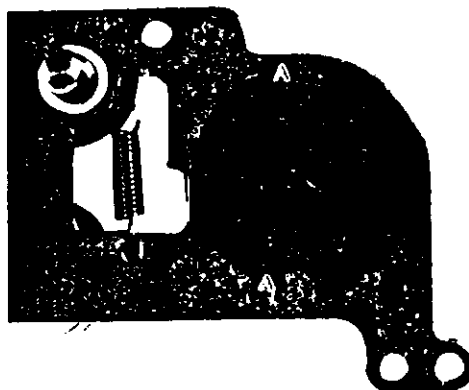
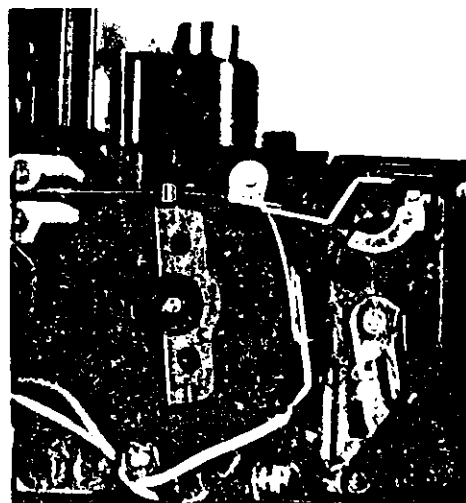

Fig. 3
Fig. 2
- 1) Set the INDICATOR CAM to position B as shown in Fig. 2. (Figure 2 indicates the BULB position.)
Hold down the PRISM FRAME, turn the SHUTTER DIAL (B in Fig. 2), while peering through the finder, and check that the SHUTTER SCALE NEEDLE (green) works properly.
- 2) Set the shutter dial to the bulb position. (Fig. 3 shows the bulb position (rear side).)
- 3) Joint part A (Fig. 3) of the shutter dial with part B of the SPEED INDICATOR CAM. (Fig. 2)